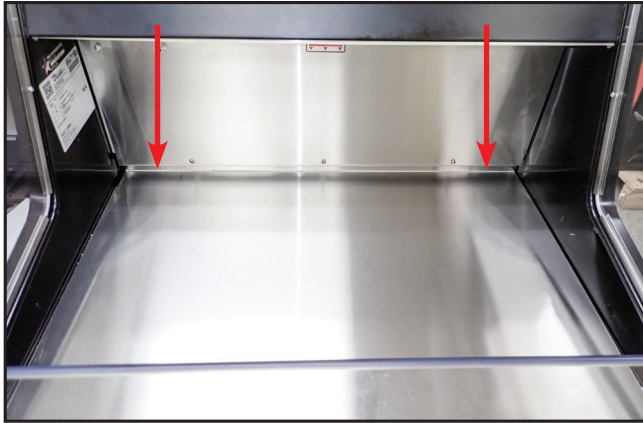

Fig. 1a. Position the shelf risers at the indicated areas.
1. Install the shelf risers as shown in figs. 1a-c.